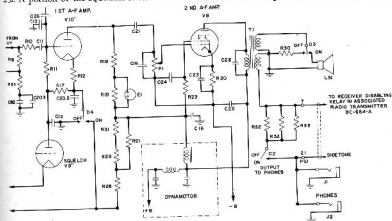

Fig. 28. Radio Receiver BC-683-A: Functional Diagram of A-f Amplifier
g. A-f Amplifier. A functional diagram of the audio-frequency amplifier is shown in Fig. 28.